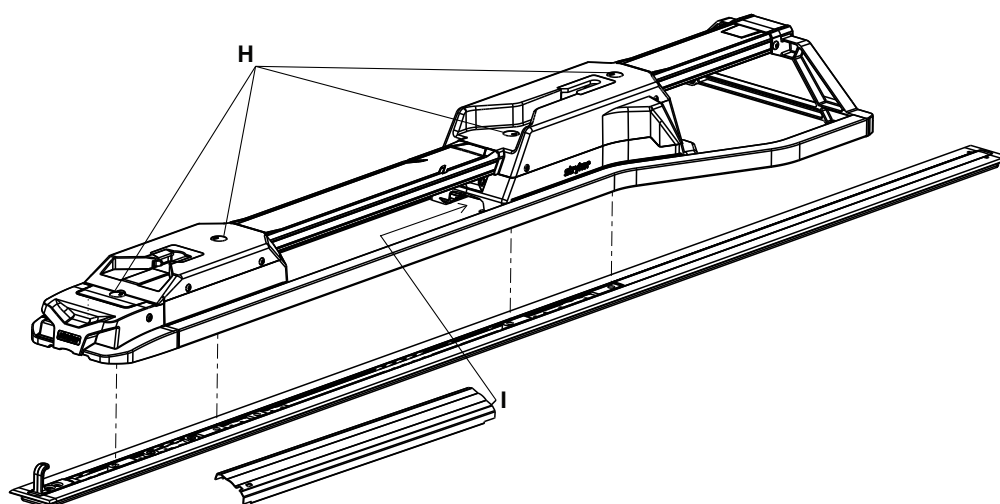

Figure 17 – Attach the fastener
17. Rotate the spin caps (H) a half turn to access the attached floor plate bolts that are under the caps (Figure 17).
19. Using a 3/8" hex wrench, install the other three attached floor plate bolts (H) into the two cleats (Figure 17).
23. Insert the unnotched side of the center cover assembly (6392-001-011) (I) into the opening in the head end housing (Figure 17).
- _____ Using a torque wrench, tighten all four attached floor plate bolts (A) to 60±10 ft-lb (Figure 17).